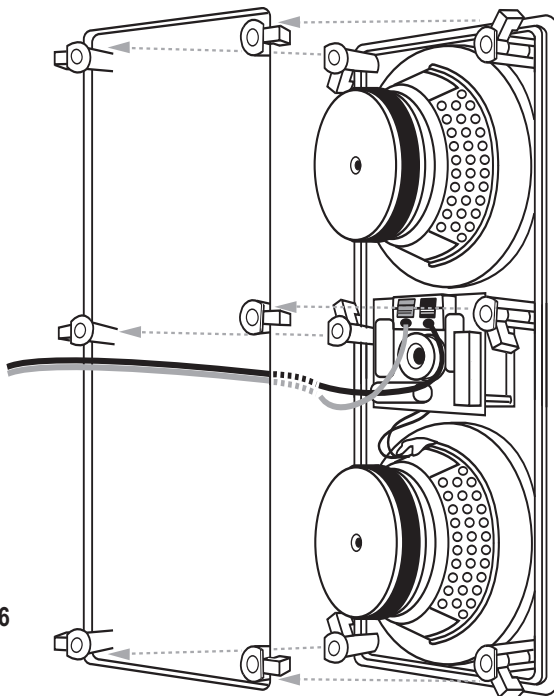

FIG. 6
6. See Fig. 6. With the speaker wire attached to the speaker, slide the speaker up inside the cut-out hole. Center the speaker in the cut-out hole and turn the six locking screws clockwise until the speaker is drawn up snugly to the wall board from behind, clamping the speaker in place. Try to tighten each screw equally. Replace the speaker grill by gently pressing it into place.